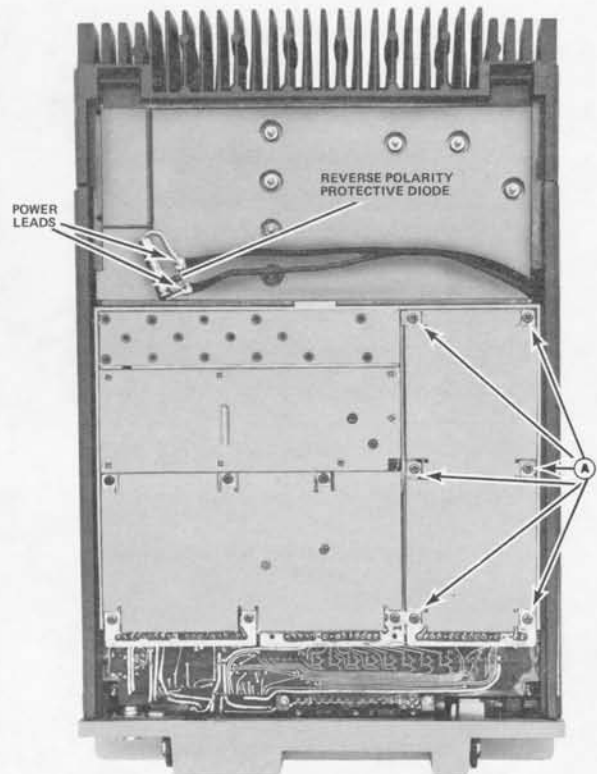

Figure 3 - Disassembly Procedure
| Figure 3 - Disassembly Procedure (Bottom View) | 3 |
3. To gain access to the bottom of the exciter board, remove the six screws (A) holding the exciter board and its bottom cover to the module mounting frame, and remove the bottom cover (See Figure 3).
2. Remove the six screws (A) holding the exciter board and its bottom cover to the module mounting frame. (Figure 3)